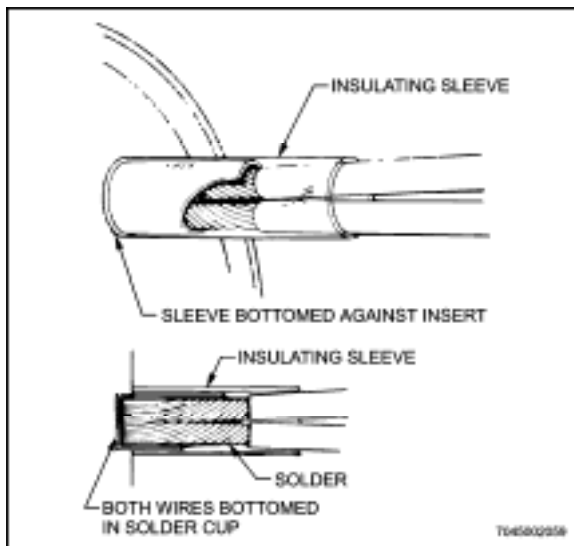

Figure 10-29 Terminating Two Wires at One Contact on Non-environmental Resistant Connector
- d. Crimp single wire, doubled if necessary; into other end of permanent splice (see Figure 10-29).
- a. If both wires can be fitted into contact solder cup, proceed as with single wire. Slide insulating sleeve over both wires together and insert them into solder cup. Make sure all strands are inside cup before soldering. When solder has cooled, push insulating sleeve down until it butts against insert. (See Figure 10-29).